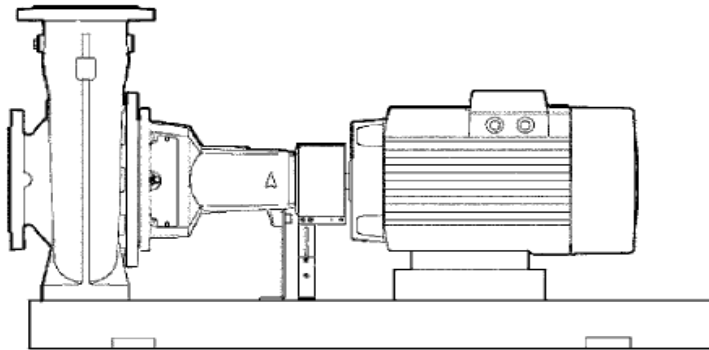

Figure 8 Frame-Mounted, End-Suction Pump on Base Plate (flexible-coupled)
- Typically, the motor and pump are mounted on a common, rigid base plate for horizontal mounting (Figure 8).